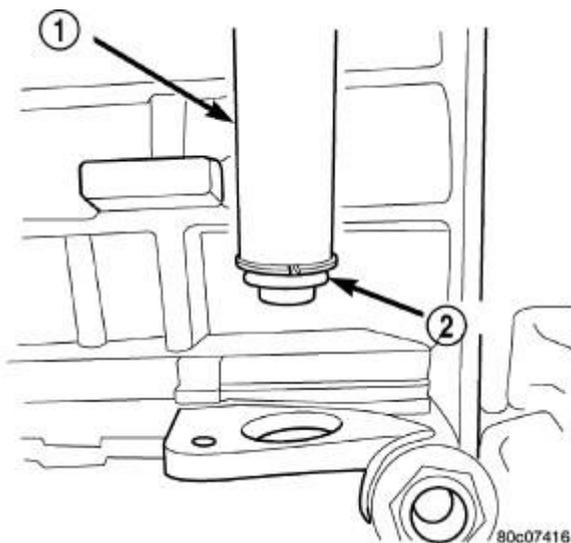

Fig. 64: Installing New Dipstick Tube Seal
7. Install a new fill tube seal (2) using Seal Installer (special tool #8254, Installer, Grommet) (1). Refer to **Fig. 64**.